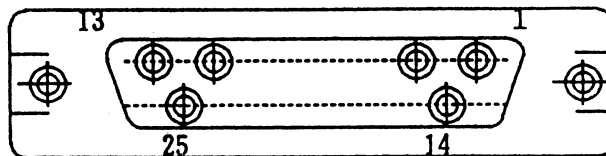

Fig. 7-1 Pin arrangement
(3) Connector Pin Arrangement and Signal Description
- ① Fig. 7-1 illustrates the pin arrangement of the RS-232C connector, and Table 7-1 lists the pin functions.